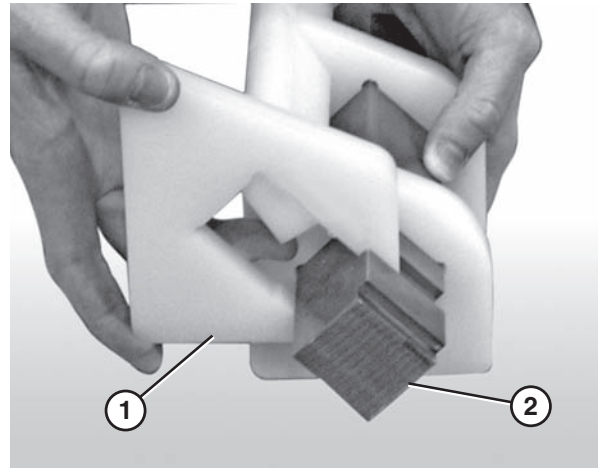

Figure 75
3. Attach the nose bar tracking pucks (**Figure 75, item 1**) to the nose bar drive post (**Figure 75, item 2**).